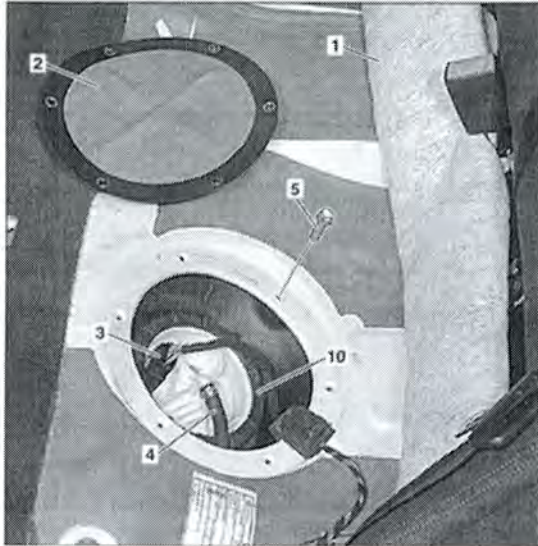

Figure 1
3.  Remove screws (5, Figure 1) and take off both fuel tank access covers (2).